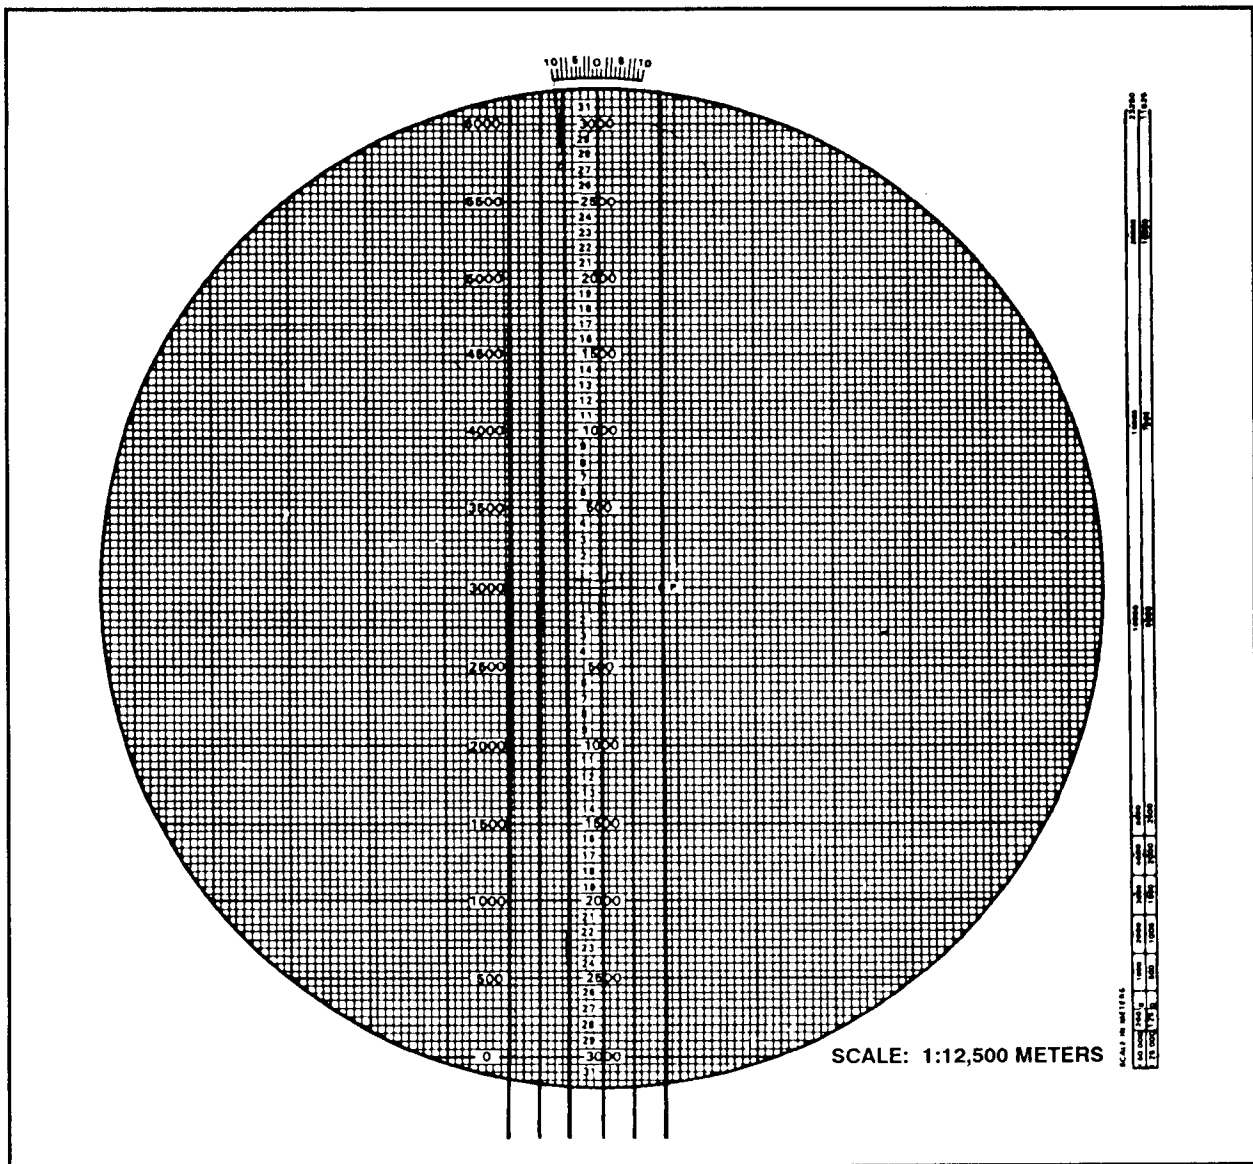

Figure G-3. Burst lines for a six-mortar 4.2-inch mortar platoon.
a. To prepare the base for use in computing TMPCs, the computer draws a series of lines parallel to the centerline representing the burst lines for each mortar. The center line, running through the pivot point, is the burst line for the base piece. The remaining burst lines are constructed left and right of the center line by letting each small square equal 10 meters and drawing the burst lines parallel to the center line. The distance between burst lines is equal to the bursting diameter of the mortar systems' HE ammunition. For the M224 mortar, the distance is 30 meters; for the M29A1 mortar, the distance is 35 meters; for the M252 and M30 mortars, the distance is 40 meters; and for the M120, the distance is 60 meters. A burst line is drawn for each mortar in the platoon or section (Figure G-3).